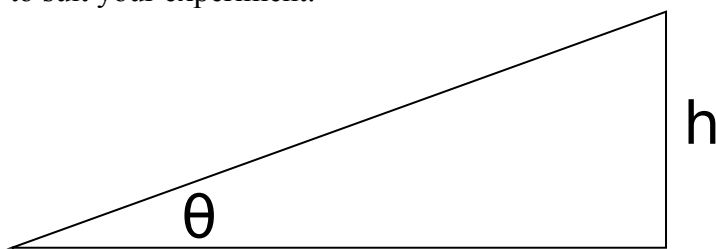

Figure 3: Finding the Angle
4. Calculate the angle, θ , of the track using the height, h , and the length of the track. See Figure 3. Record the value.